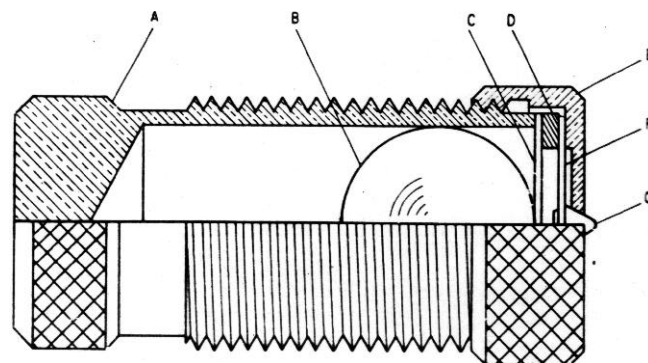

Fig. 1 Stationary Contact Assembly
The contacts are especially constructed to suppress bouncing. The **stationary contact (G, Fig. 1)** is mounted on a flat spiral spring (F) backed up by a thin diaphragm (C). These are both mounted in a slightly inclined tube (A). A stainless steel ball (B) is placed in the tube before the diaphragm is assembled. When the moving contact hits the stationary contact, the energy of the former is imparted to the latter and thence to the ball, which is free to roll up the inclined tube. Thus, the moving contact comes to rest with substantially no rebound or vibration.
To adjust the wipe of the stationary contact, remove the contact barrel and sleeve as a complete unit after **loosening** the screw at the front of the contact block. Unscrew the cap (E, Fig. 1). The contact and its flat spiral mounting spring may then be removed. The spring should be **adjusted** so that a contact wipe of approximately 0.006 inch is **obtained** when fully assembled. This may be measured by **rotating** the contact barrel 45 to 90 degrees ($1/8$ to $1/4$ turn) after initial connection with the moving contact.